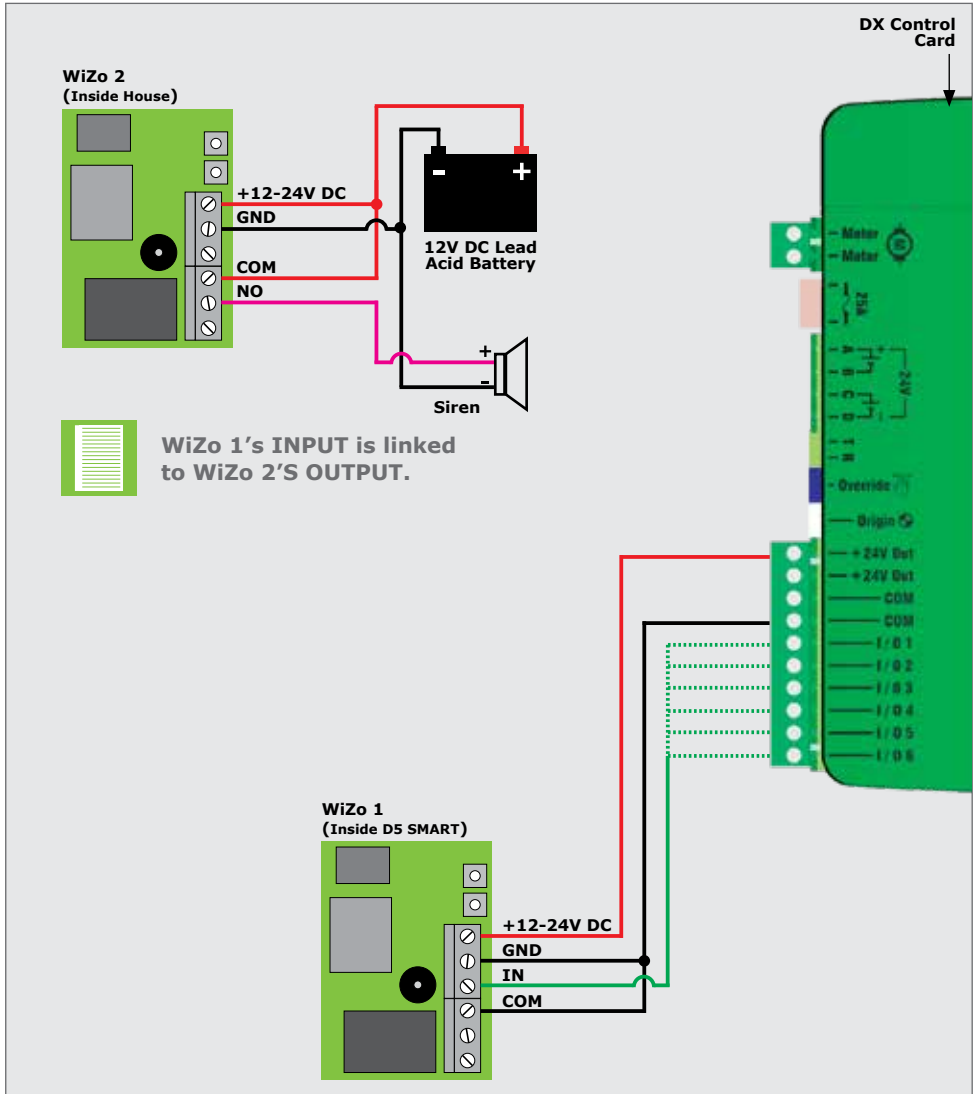

FIGURE 86. ANTI-TAMPER ALARM WIRING WITH TWO WIZOS
- The trigger/TRG (green wire) in Figures 86 can be either wired into IO1 - IO6, depending on the sites individual needs